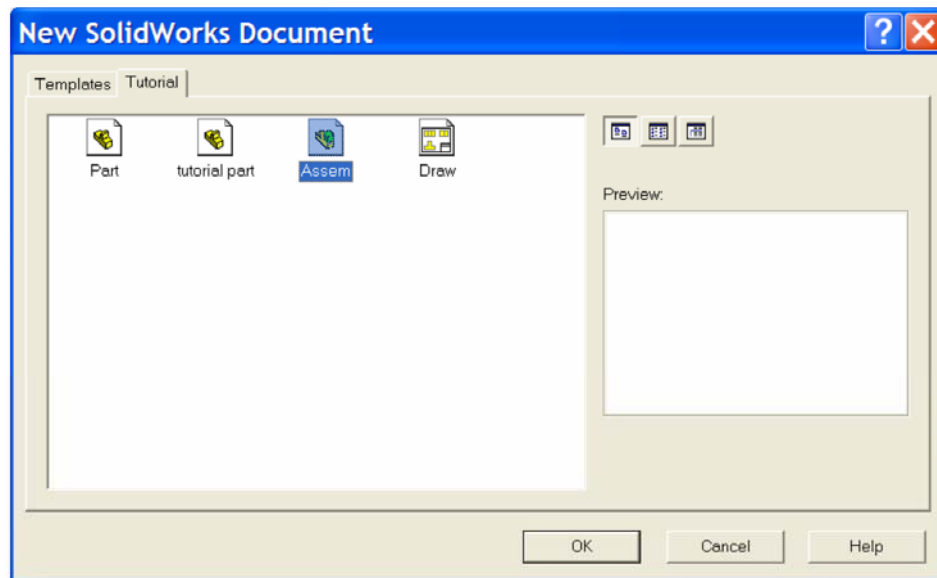

Figure 1
2. From 'New'  open an Assembly File  and select 'Tile Horizontally'. See Figures 1 & 2.